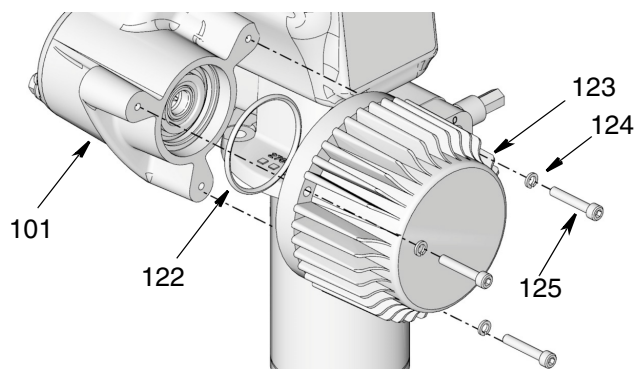

FIG. 20
8. Observe location of priming rod (215) and shovel piston (216) inside the shovel cylinder (208). If the piston is not located in the lowest position inside the cylinder:
- Remove screws (125) and washers (124) holding motor (123) to gear box housing (101) (FIG. 20).
- Verify o-ring (122) is still in place and correctly seated in gear box housing (101) (FIG. 20).
- Reinstall motor (123) to gear housing box (101) using screws (125) and washers (124). Use a wrench to tighten screws securely. Torque to 12 - 14 ft lbs (16.27 - 18.98 N.m) (FIG. 20).